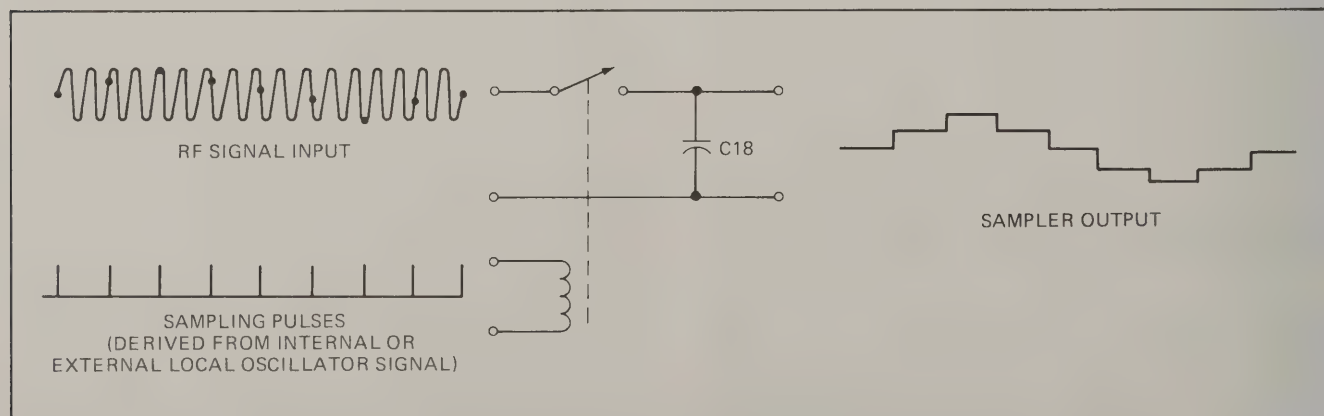

Figure 3-3 Sampling Gate Operation
**3-23.** The selected local oscillator signal (either internal or external) is mixed with the rf signal to be measured in the sampling gate. The sampling gate is an electronic switch consisting of four hot-carrier diodes (CR2 through CR5) connected between the rf signal and input capacitor C18. The operation of the sampling gate is shown in simplified form in Figure 3-3.